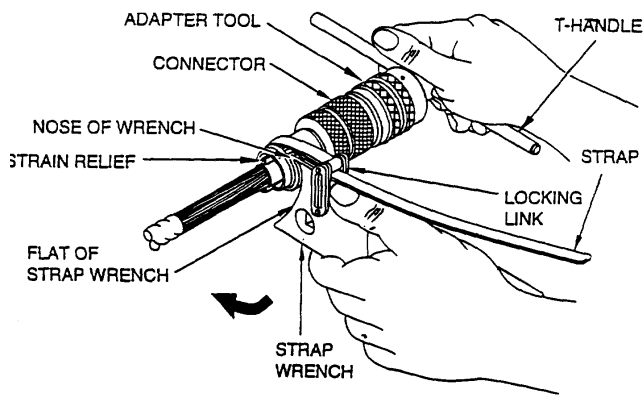

Figure 40. Assembly Accessory
h. Assemble cable (harness) by sliding strain relief along cable assembly. Engage threads of strain relief to connector. Hand tighten to connector. Hold connector stationary with applicable adapter tool and T-Handle. Install strap wrench around strain relief. Apply force clockwise, as viewed from rear of connector, an additional 1/4 turn (Figure 40).